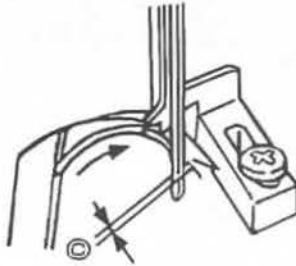
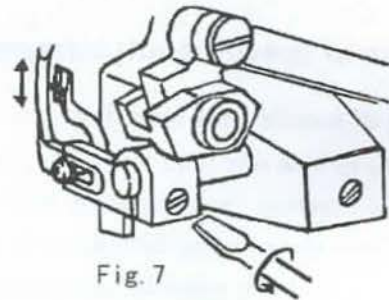

Fig. 6
Fig. 7
(1) When the large looper is in its advance end position, the size between the side of the hook needle and the large looper slot bottom (Fig.6, "C") shall be as given in Table 2. To adjust the position of the large looper, loosen the tightening screw in the large looper block as illustrated in Fig.7.
(2) When the needle bar is at the lowest dead point, the distance between the large looper top and the side of the parent needle (Fig.8, "D") shall be as given in Table 3. To adjust this distance, adjust the travel amount (angle of the oscillating block) by changing the position of the tightening screw in the large looper adjusting arm as illustrated in Fig.9. Decrease the travel amount, if the size "D" is excessive, or increase the travel amount if the size "D" is insufficient. To decrease the travel amount, loosen the tightening screw with a spanner and move the large looper adjusting arm so that it clears the large looper shaft. To increase the travel amount, move the large looper adjusting arm so that it comes closer to the large looper shaft. Since the travel position of the large looper (Fig.6, "C") and the timing of the large looper to the needle will be changed by this adjustment, align the needle with the looper while confirming the proper timing.